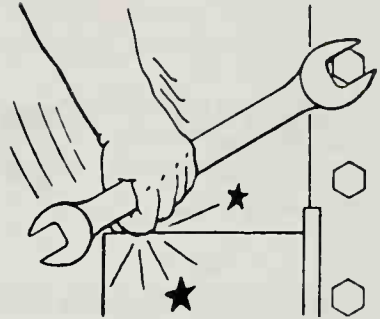

Figure 2-13. If you push a wrench, especially towards an obstruction, you may jam your fingers. (*Sears, Roebuck and Co.*)
11. When using open-end wrenches, always pull the load (Figure 2-12). Pulling is much safer if something slips or breaks, because when you pull a wrench it is usually away from some obstruction. If you push it, it is often toward an obstruction which could jam your hand and knuckles if the wrench slips (Figure 2-13).